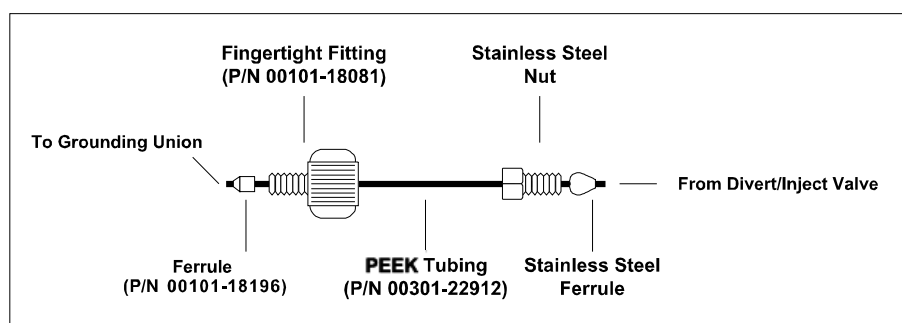

Figure 5-7. ESI/MS plumbing connections for the divert/inject valve and grounding union
2. Connect an appropriate length of (red) PEEK tubing (transfer line from the divert/inject valve) from the divert/inject valve to the (stainless steel) grounding union, as follows. See Figure 5-7.